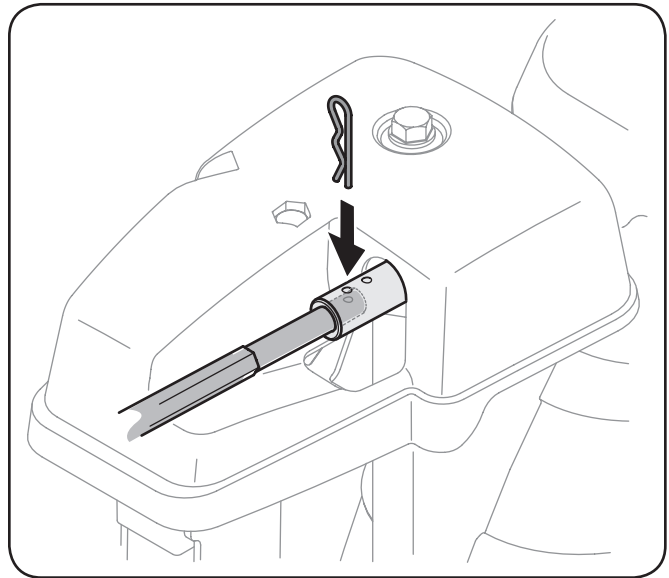

Figure 6-8
- Pull out the chute control rod until the hole in it lines up with the second hole in the chute rotation assembly. See Figure 6-8.
- Reinsert the hairpin clip through this hole and the chute control rod. See Figure 6-8.